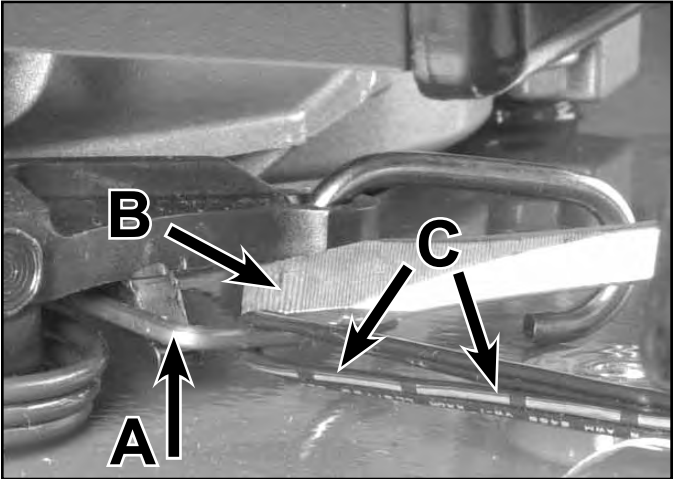

Fig 233 3428-0177-3
10. Hold the idler/brake arm in place. Slip the spring over the end on top of the deck as shown. Install the lever and install the screw through the lever and idler/brake arm shaft (Fig. 233). Once the screw is secured take a loop of wire or rope and hook the end of the spring. Pull it towards you and hook the end as shown.